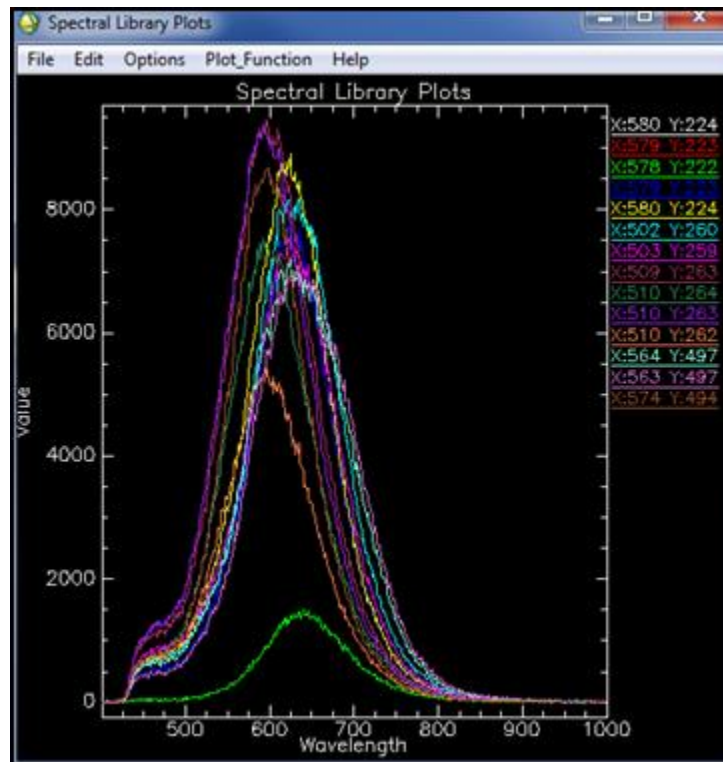

Figure 5.10c. Spectral library viewer window used to create the spectral library plot
- Open the spectral library (Figure 5.10c).